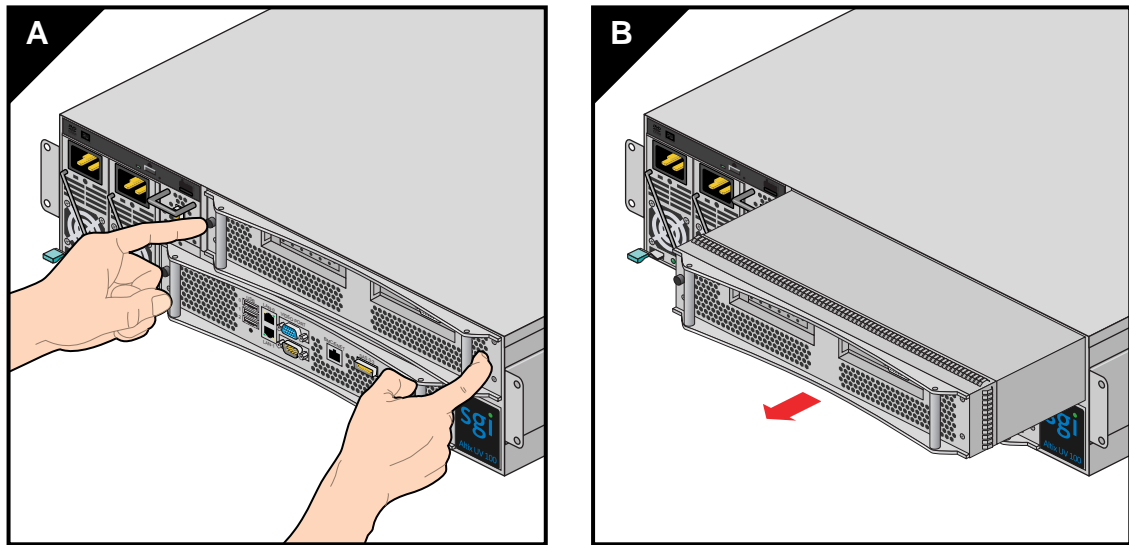

Figure 5-4 Extracting the PCIe Riser Blade From the Enclosure
3. Grasp the front pull bars and depress the black release button on the blade and pull it out of the IRU, see the example in Figure 5-4. Place it on a flat static-safe working surface.